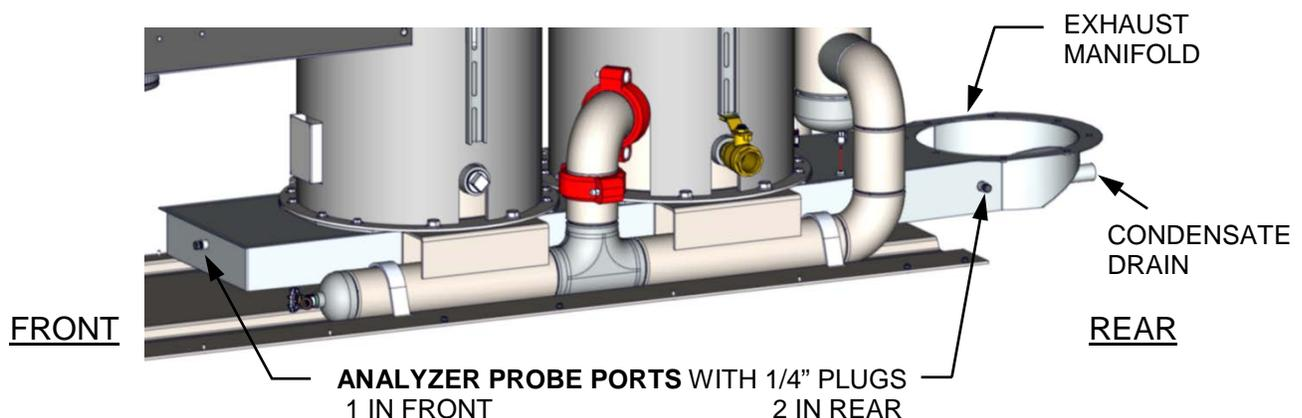

Figure 4-2: Analyzer Probe Hole Location
1. Refer to Figure 4-2 and remove one of the three 1/4" NPT plug from the desired location on the exhaust manifold. There are three 1/4" NPT ports, one in the front of the exhaust manifold and two in the rear, on the left and right sides.